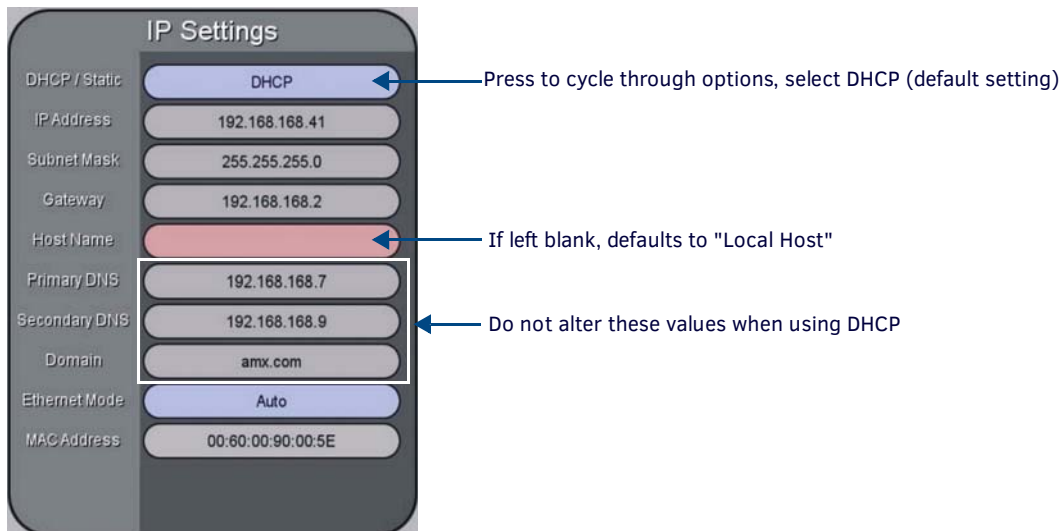

FIG. 40 System Settings page - IP Settings
2. In the *IP Settings* section (FIG. 40), press the **DHCP/Static** button until the choice cycles to **DHCP**.
2. In the *IP Settings* section (FIG. 40), press the **DHCP/Static** button until the choice cycles to **Static**.